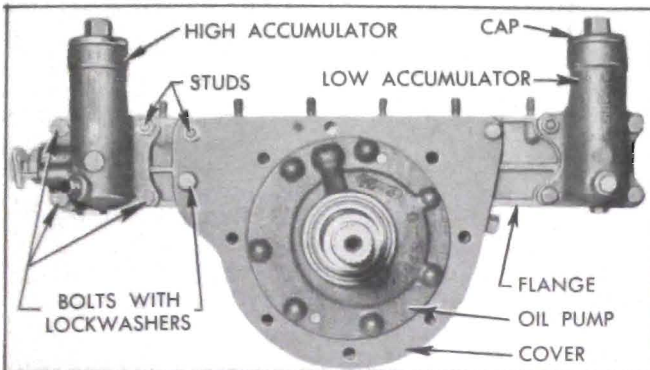

Figure 5-31—Accumulator Body and Reaction Shaft Flange Attaching Screws
3. Remove the bolts which attach the accumulators and the oil pump cover but do not remove the stud nuts which attach these parts. See figure 5-31.